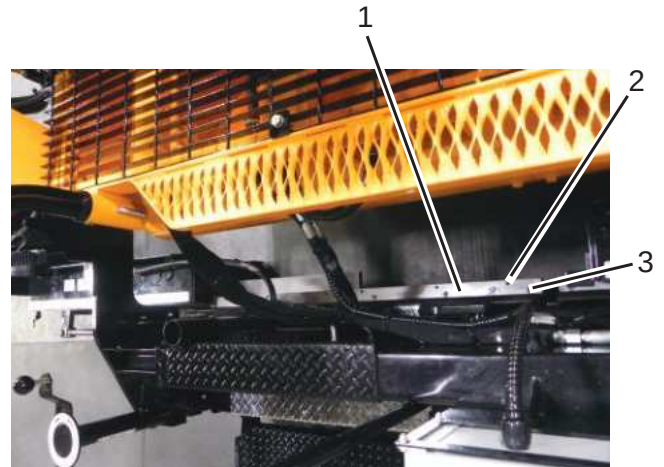

Figure 5-9. Screed Extension Top Guide Adjustment
2. Loosen the top guide and hold-down bolts. **(Figure 5-9)**